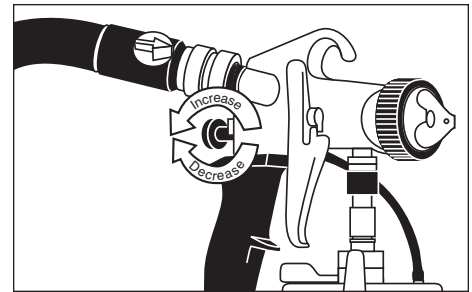

Figure 10 - Adjusting Material Flow
- To adjust material flow, turn material control knob clockwise to decrease and counterclockwise to increase (See Figure 10).